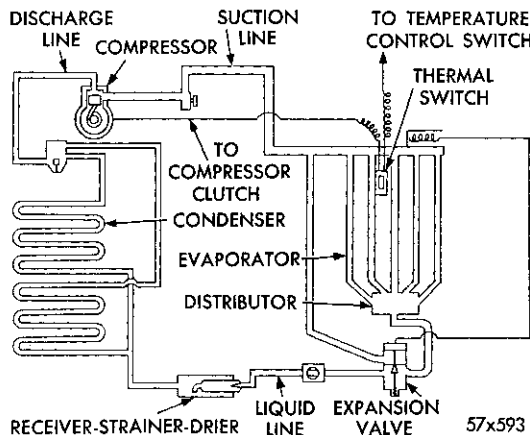

Fig. 9—Heater Air Conditioning (Schematic of Components)
1. Compressor clutch and water valve heating element will be energized (Figs. 9 and 10).